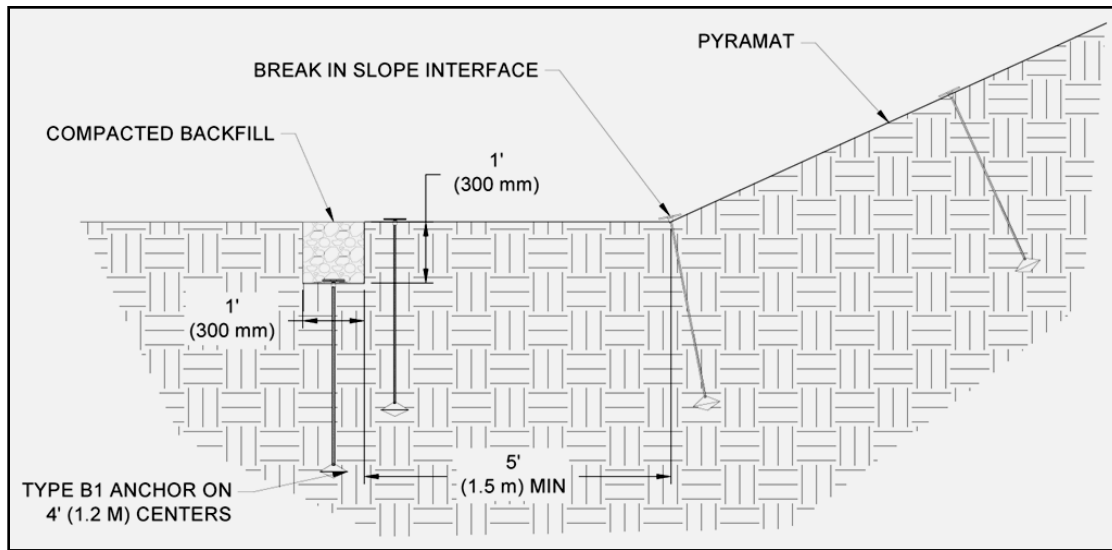

Figure 2: Toe of Slope (TOS) Trench
4. Excavate a Toe of Slope (TOS) trench 12 in x 12 in (300 mm x 300 mm) minimum at a minimum distance of 5 ft (1.5 m) from the toe of the slope. (Figure 2)